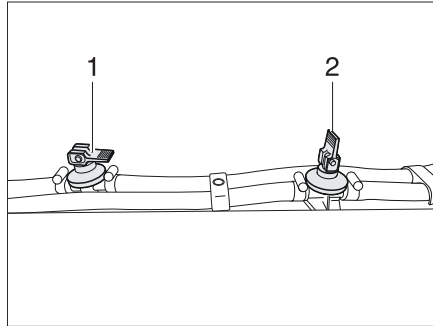

Fig. 292 Drain cock
- Open all drain cocks. To do so, set the rocking lever (in Fig. 292,2) in a vertical position.